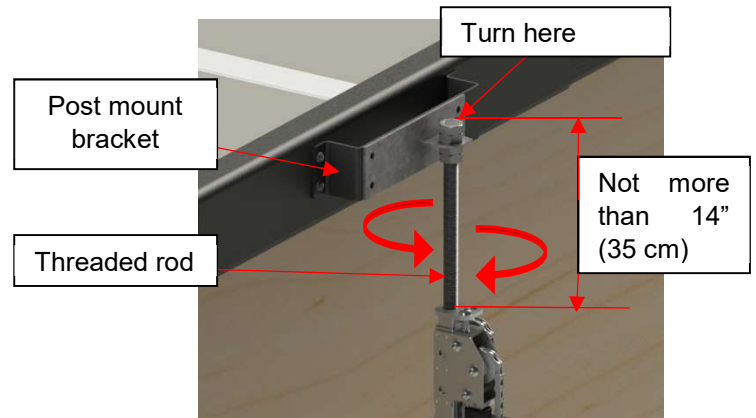

Figure 99
- 15) The jack adapter located at the top of the jack can be adjusted by turning the large threaded rod. Adjust the height so that they match the cover mount bracket holes. Use the adjustable wrench 15/16" (24 mm) head. Repeat this step for all four jacks (Figure 99).
- ♦ The threaded rod must not be unscrewed more than **14 inches (35 cm)**. (Measure the length from the top of the threaded rod nut to the top of the bottom nut (Figure 99).)